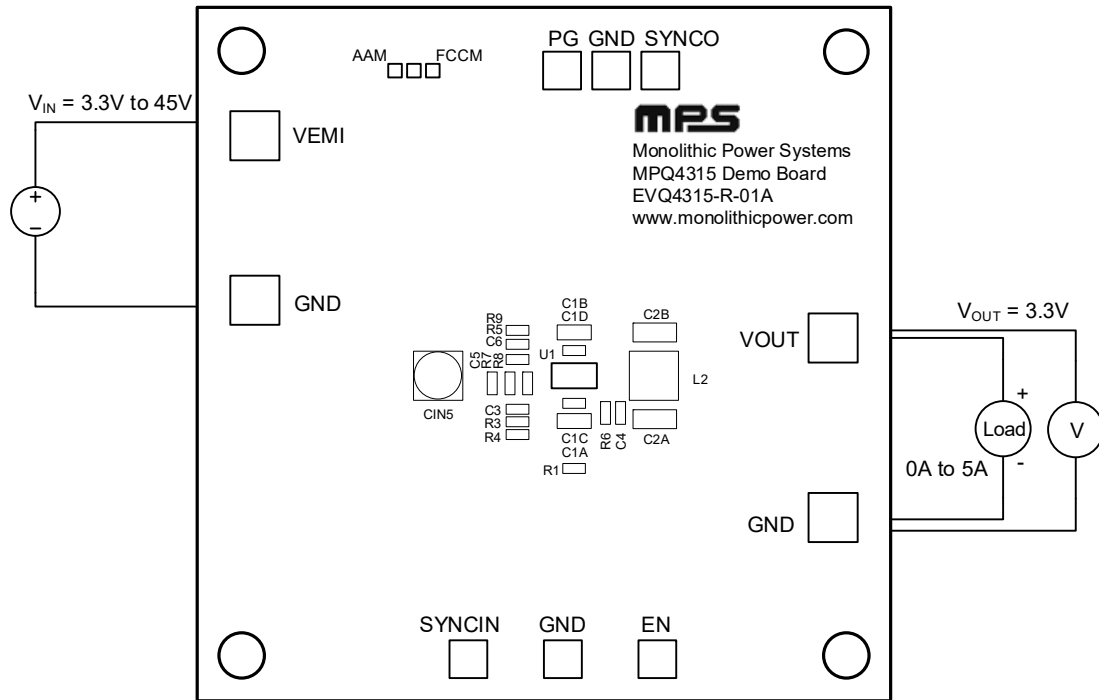

Figure 2: Measurement Equipment Set-Up
3. Connect the power supply terminals to (see Figure 2 on page 3):
4. Connect the load terminals to (see Figure 2 on page 3):